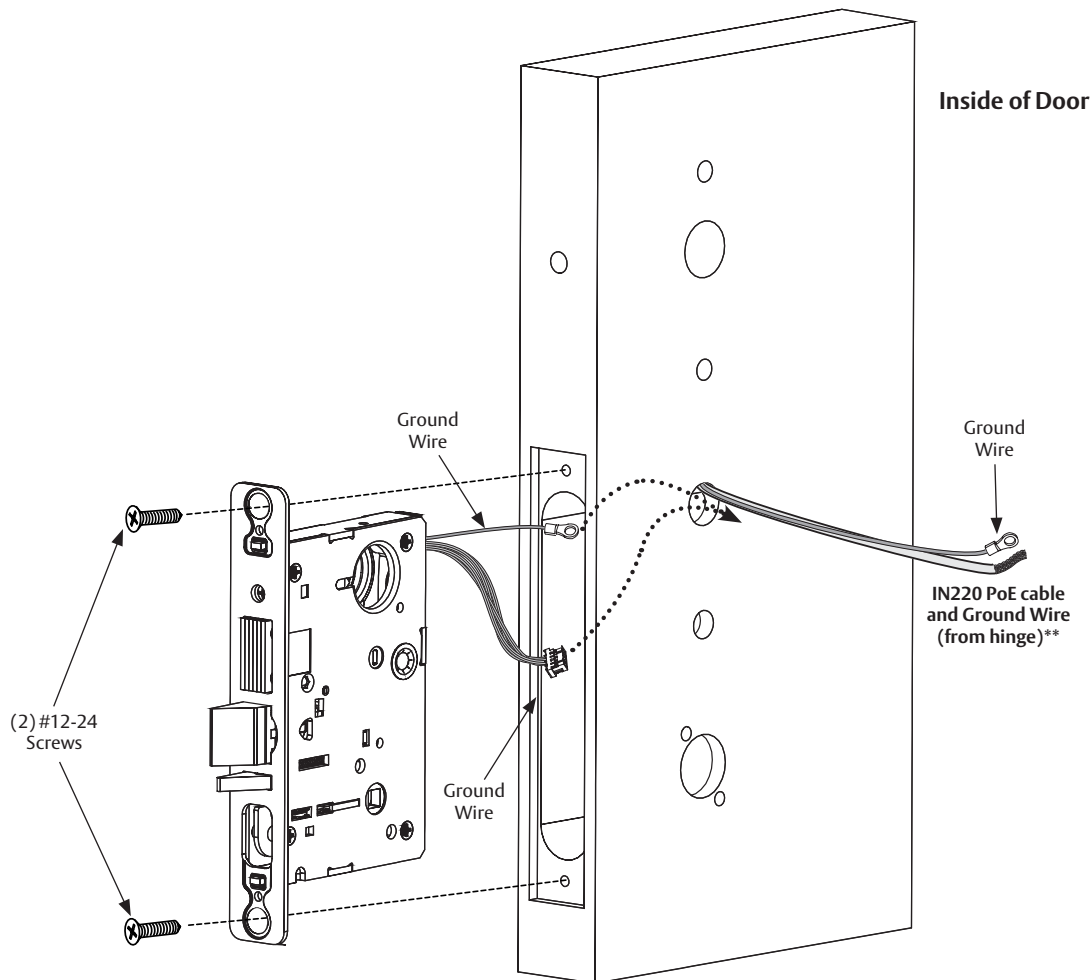

Figure 5-3A
1. Feed the wire harness into the mortise pocket and through inside preparation hole (Figure 5-3A).
3. Insert (2) #12-24 screws into the lock body (Figure 5-3A) and tighten with a screw driver.